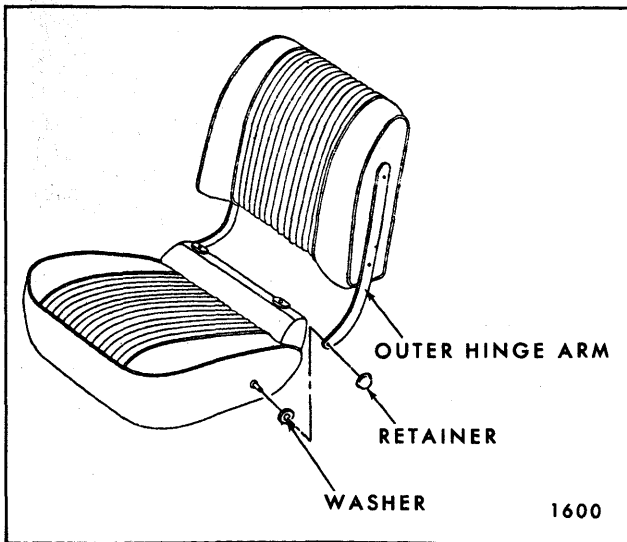

Fig. 10-40—Bucket Seat Back Removal - Corvaire
1. Using a flat-bladed tool, carefully remove retainer from inner and outer hinge pin (Fig. 10-40).